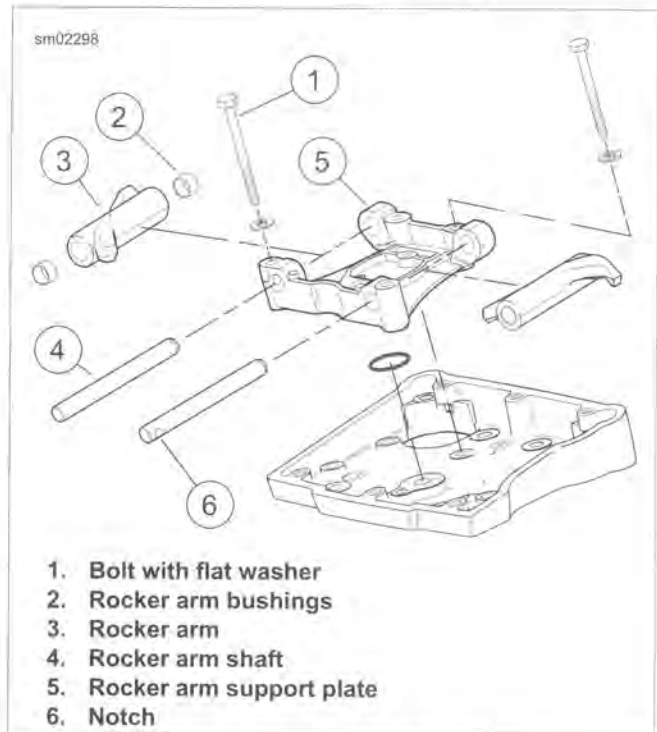

Figure 3-26. Rocker Arm Assembly
1. See Figure 3-26. Remove four bolts and flat washers (1) from the rocker arm support plate (5).
3. See Figure 3-26. Remove the rocker arm shafts (4) so that the notched ends exit the rocker arm support plate (5) first. Use a hammer and brass drift if necessary. Mark the shafts so that they are installed in their original locations at time of assembly.
2. See Figure 3-26. Inspect rocker arms (3). Replace rocker arm if excessive wear is found.
3. Verify that oil holes in rocker arms and rocker arm support plate (5) are clean and open.
4. Inspect rocker arm shafts (4) for scratches, burrs, scoring or excessive wear. Replace if necessary.